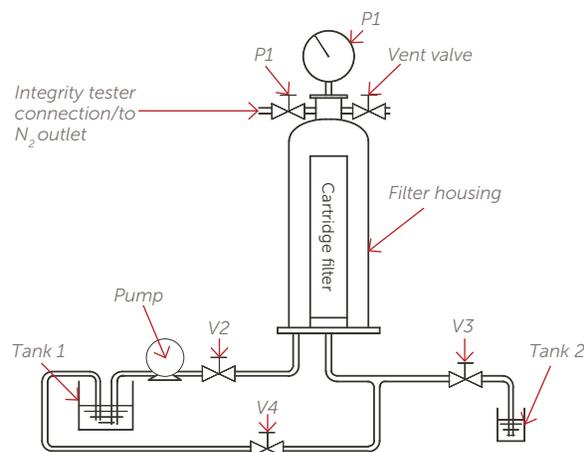

Figure 2. Flushing and wetting system.
1. Prepare components: filter housing, pressure gauges, combined connectors, clean gas source, pump, tank, pipes etc, Figure 2.
Filter components are shown in Figure 2.